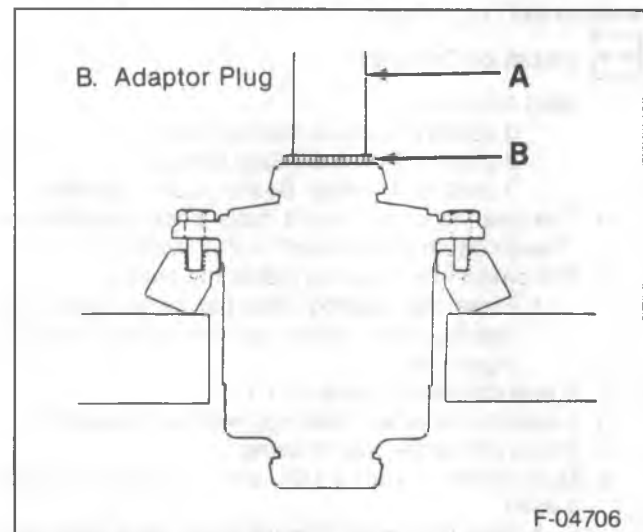

Figure 19—Installing the Ring Gear to the Case
- Press the ring gear onto the case far enough to start the bolts using J 8107-3 to protect the differential from the press ram (figure 19).
6. New ring gear bolts (26).